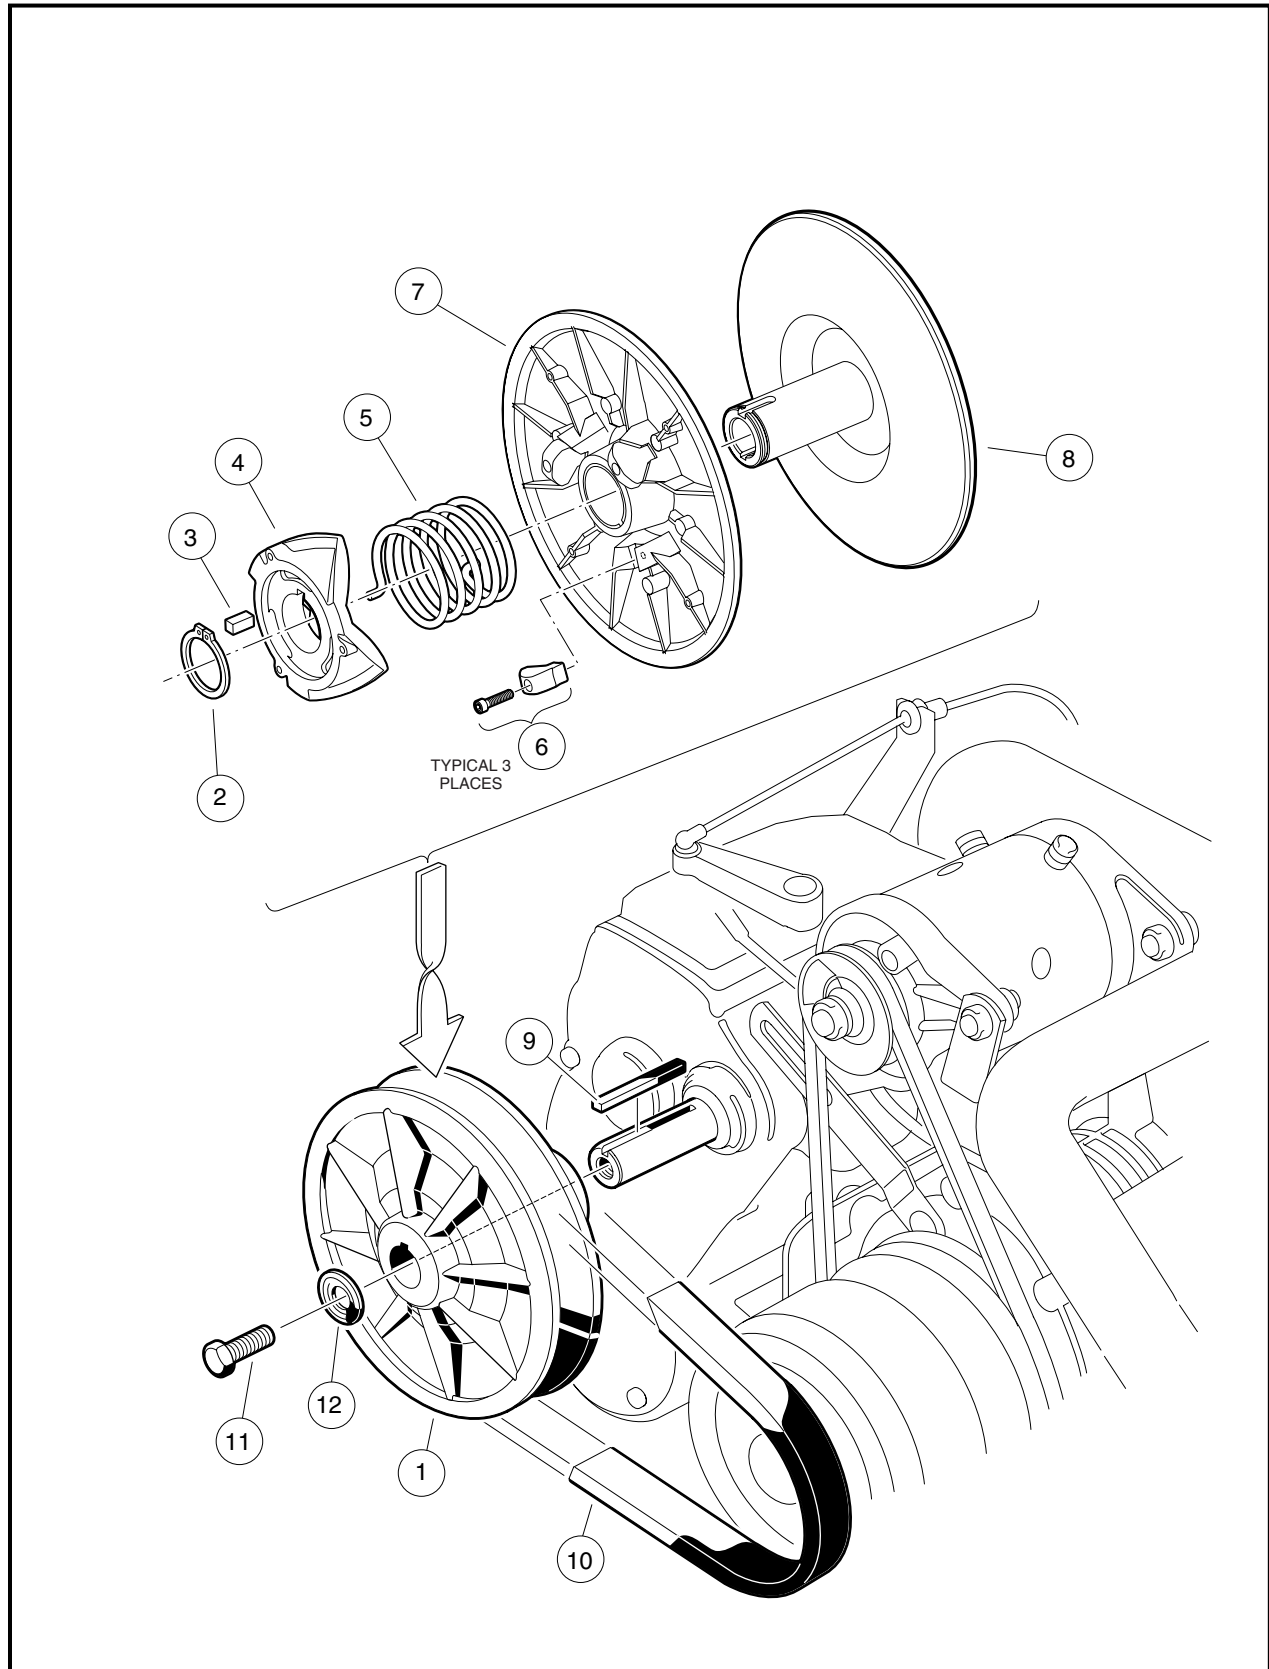
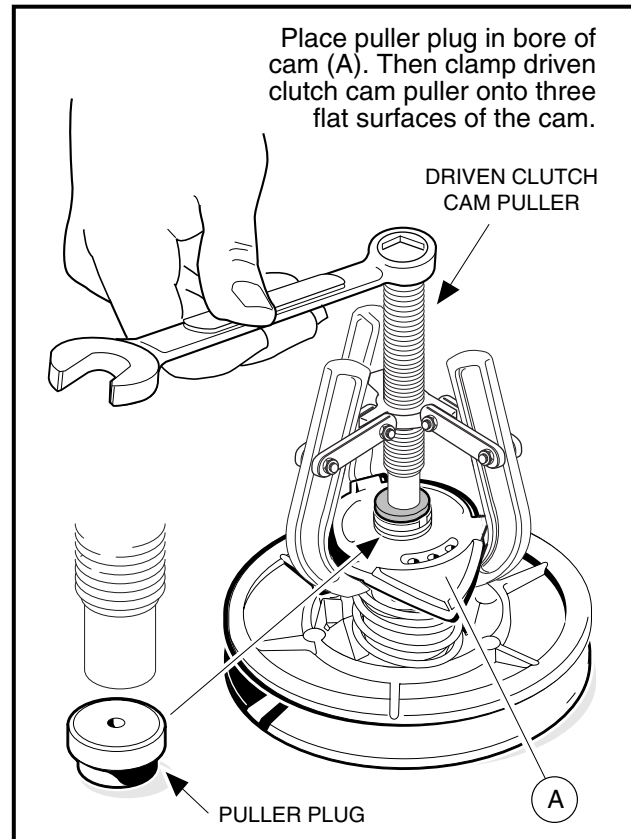

Figure 17-16 Driven Clutch Assembly
Figure 17-18 Driven Clutch Disassembly
5. Remove the bolt (11) and mounting washer (12) from the clutch shaft (**Figure 17-16, Page 17-14**).
7. Leave the key (9) in the keyway (**Figure 17-16, Page 17-14**).
2. Insert a puller plug (CCI P/N 1014507) (**Figure 17-18, Page 17-15**) into the shaft bore and use a driven clutch cam puller (CCI P/N 1014508) to remove the cam (4) from the fixed face shaft (8). Retain the key (3) (**Figure 17-16, Page 17-14**).
3. Remove the spring (5) (**Figure 17-16, Page 17-14**).
4. Slide the moveable face (7) off the fixed face shaft (8) (**Figure 17-16, Page 17-14**).
1. Inspect the cam (4) for excessive wear. Replace it if necessary (**Figure 17-16, Page 17-14**).
2. Inspect the drive buttons (6) for excessive wear. Replace if necessary. To remove the drive buttons, remove the socket-head cap screws and then the buttons.
1. Place the three drive buttons (6) in position. Apply one drop of Loctite® 222 to each of the socket head cap screws and then install and tighten them to 8 in-lb (0.9 N·m) (**Figure 17-16, Page 17-14**).
2. Slide the moveable face assembly (7) onto the fixed face shaft (8).
3. Place the end of the spring (5) into hole in the moveable face assembly.
4. Install the key (3) into the keyway of the fixed face assembly (8) shaft.
5. Holding the cam (4) in position for assembly on the shaft, install the other end of the spring (5) into the center spring hole of the cam. Rotate the cam until the keyway is aligned with the key (3) on the fixed face assembly, and then start the cam onto the shaft approximately 1/4 to 3/8-inch (6.3 to 9.5-mm).
- 5.1.3. Install the retaining ring (2) (Figure 17-16, Page 17-14). See following NOTE.
1. To install the driven clutch, reverse the removal procedure. Make sure that the washer (12) is mounted with the flat portion of the washer against the driven clutch as shown (**Figure 17-16, Page 17-14**). Secure with a *new* bolt (11). **See following NOTE.**
**NOTE:** *The bolt (11) must be replaced with a new bolt (CCI P/N 102242101) containing a locking patch that will prevent the bolt from loosening.*
2. Tighten the bolt (11) to 14 ft-lb (19.0 N·m).